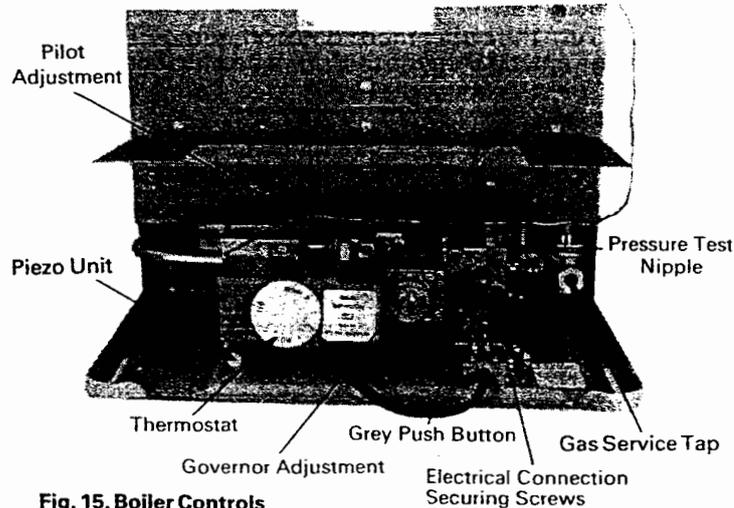

Fig. 15. Boiler Controls
5. Remove the screw securing the controls connection plug, unclip the wiring, and disconnect the plug and the inlet socket (Fig. 15).
19. Turn the thermostat to the "OFF" position (Fig. 15).
24. Check that the correct pressure corresponding to the range rated output is adequate for the installation (see data label). If necessary remove the cover screw and adjust the appliance governor (Fig. 15). (Turn screw clockwise to increase pressure) ensuring that the position of the input indicator arrow on the data label is correctly set.